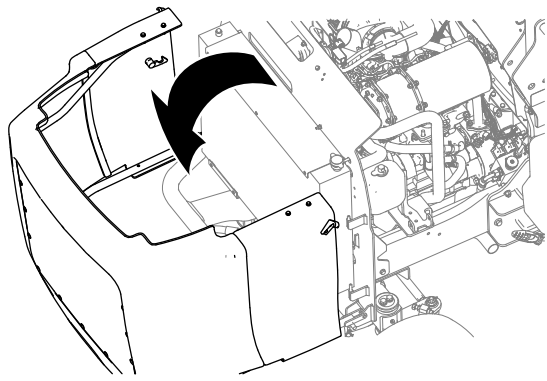

Figure 65
5. Unlatch and open the hood (Figure 65).